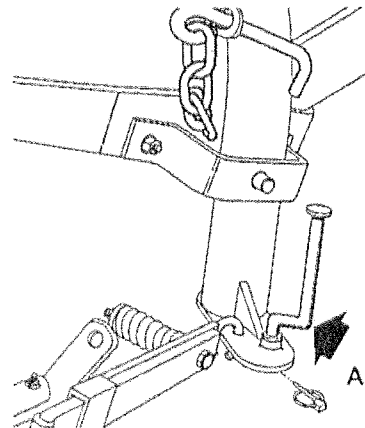

Fig. 28
- Remove support (A and B, Fig. 28 and 29) and remount them, upside-down in their seat.